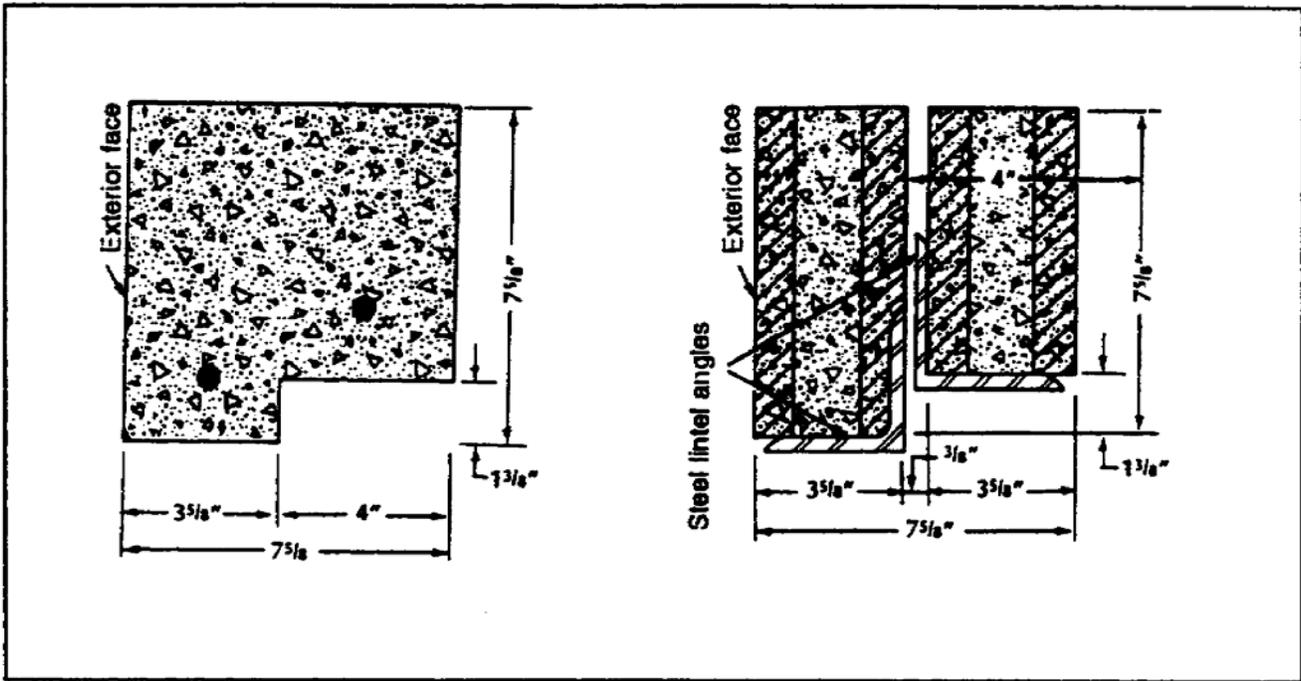

Figure 2-30. Precast concrete lintels with an offset
a. Offset Lintels. For modular window and door openings, you will often use precast concrete lintels designed with an offset on the underside. Steel angles are also used with lintels to support blocks over openings. You must install the blocks with the offset on the underside to fit modular openings (Figure 2-30).